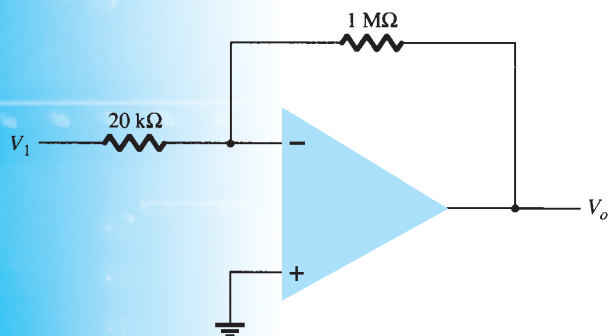

FIG. 10.64
3. What input voltage results in an output of 2 V in the circuit of Fig. 10.64?